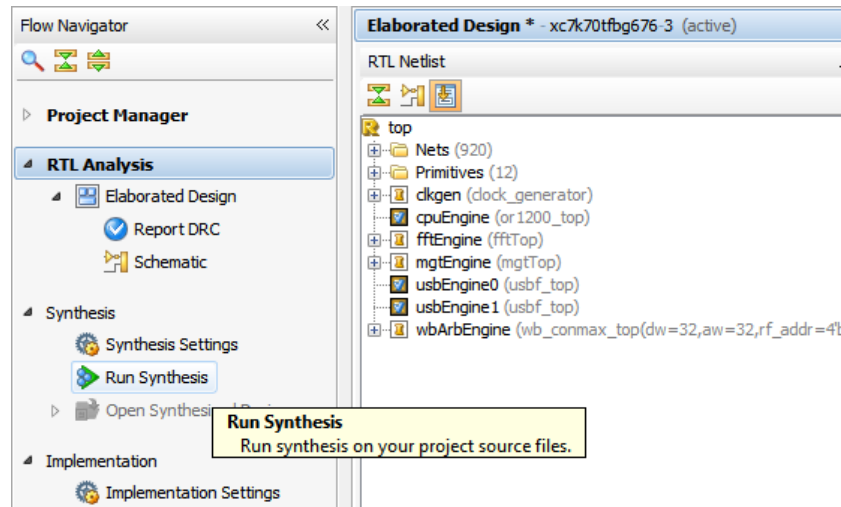

Figure 7: Run Synthesis
5. Scroll to the bottom of the report file to review the partition information, as seen in Figure 7.